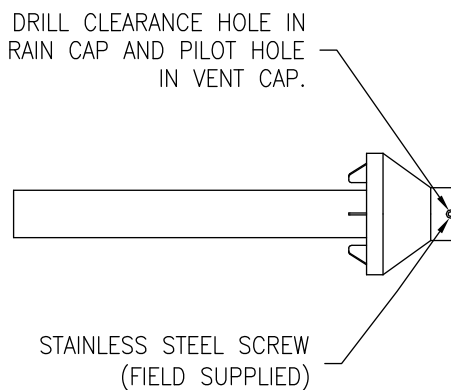

Figure 21. Rain Cap to Small Vent Pipe Assembly.
- b. Cement rain cap to smaller diameter pipe. (See Figure 21).
- Cement rain cap to smaller diameter kit pipe. (See Figure 21).